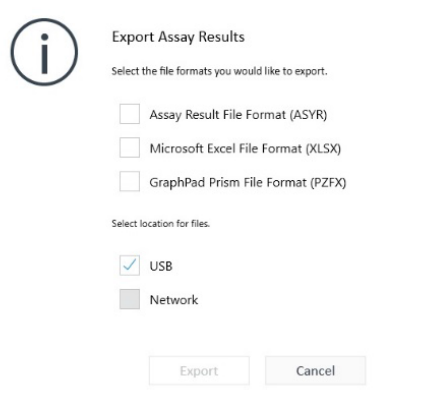

Figure 25. Export options dialog box.
- 2 Export options:** Assay result files may be exported to Microsoft Excel or GraphPad Prism file formats (requires a USB flash drive or shared network directory). See **Figure 25**. To export these files (either individually or collectively) to a network location or USB, click the individual check box or click **Select All**, and then click **Export**.